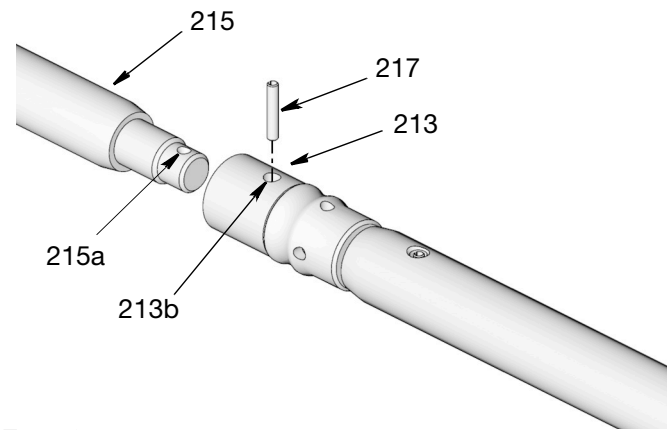

FIG. 40
8. Thread priming rod (215) into end of piston rod (213). Hand tighten the two pieces together securely, ending with hole (215a) aligned with hole (213b) (FIG. 40).
9. Install pin (217) through the aligned holes [215a and 213b (FIG. 40)]. Support rods (215 and 213) as needed to ensure the rods do not bend. Use a pick and hammer to seat the pin inside the rods.